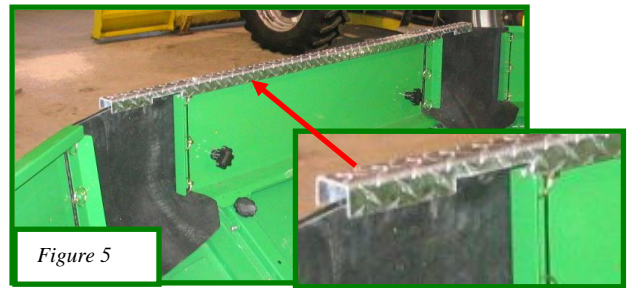

Figure 5
Step 2: Hood Support Channel Installation (See Figure 5)